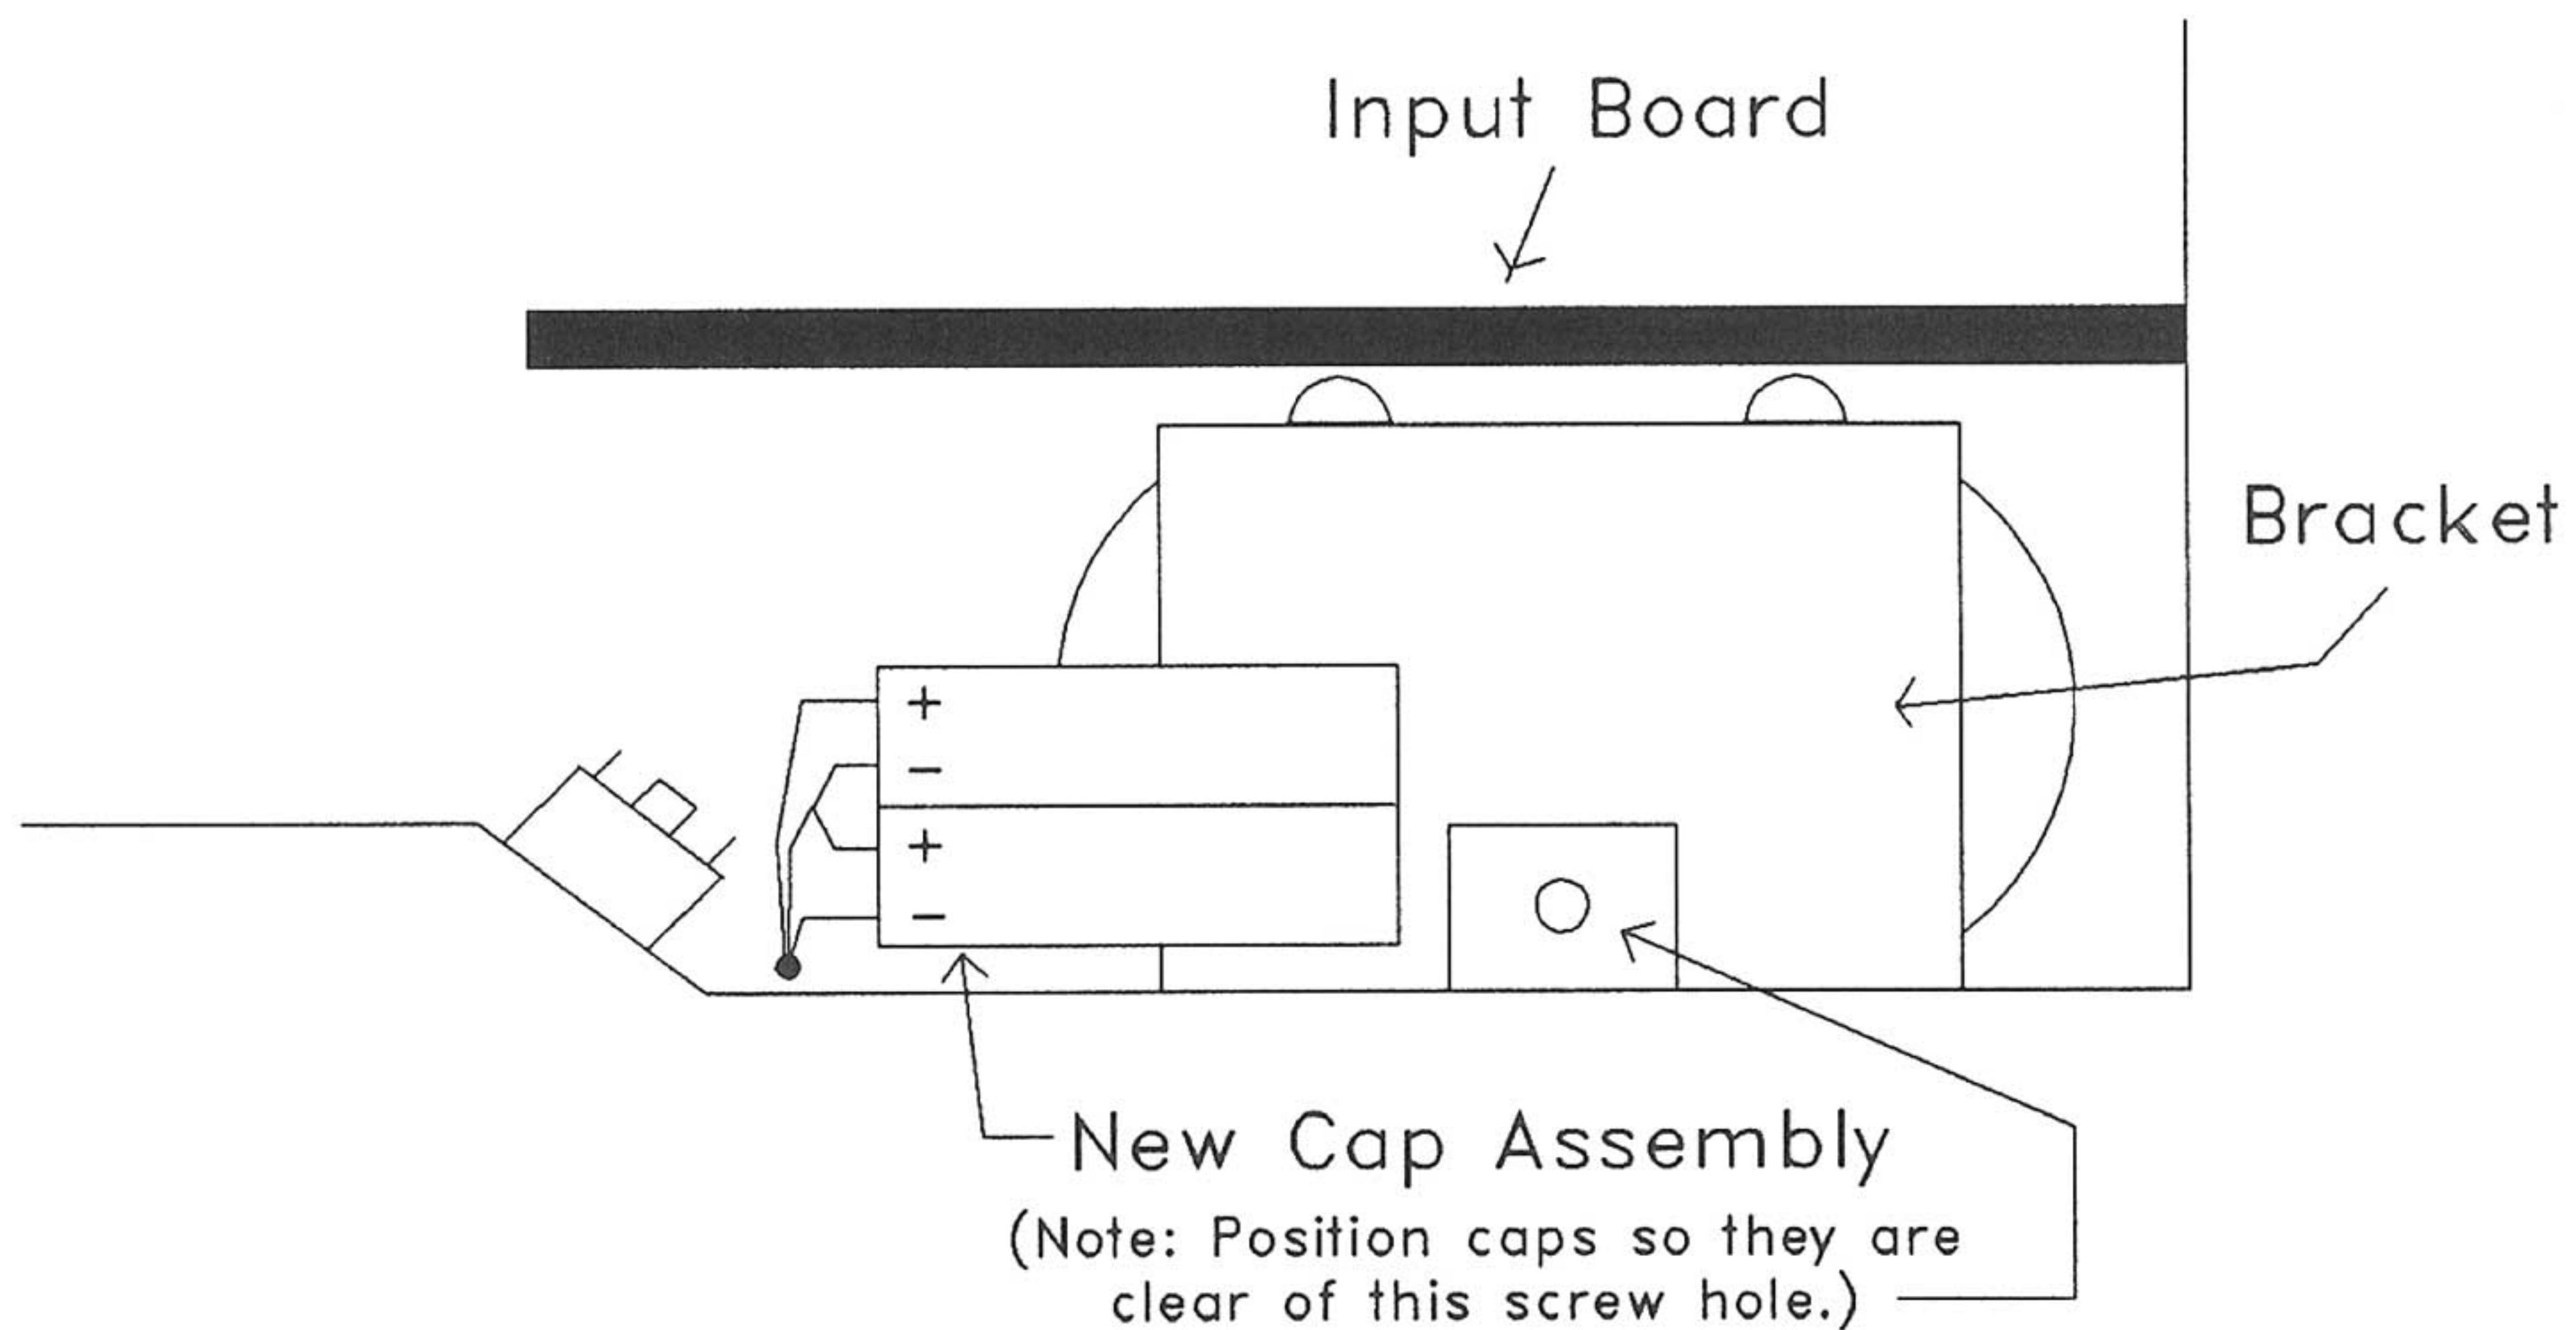

Figure 4
- 5) Attach second piece of foam tape to back side of cap assembly, and remove backing from foam tape. Apply some silicone RTV to the cap bracket and position the cap assembly as shown in Figure 4. Route the wires as close to the bottom of the chassis as possible.